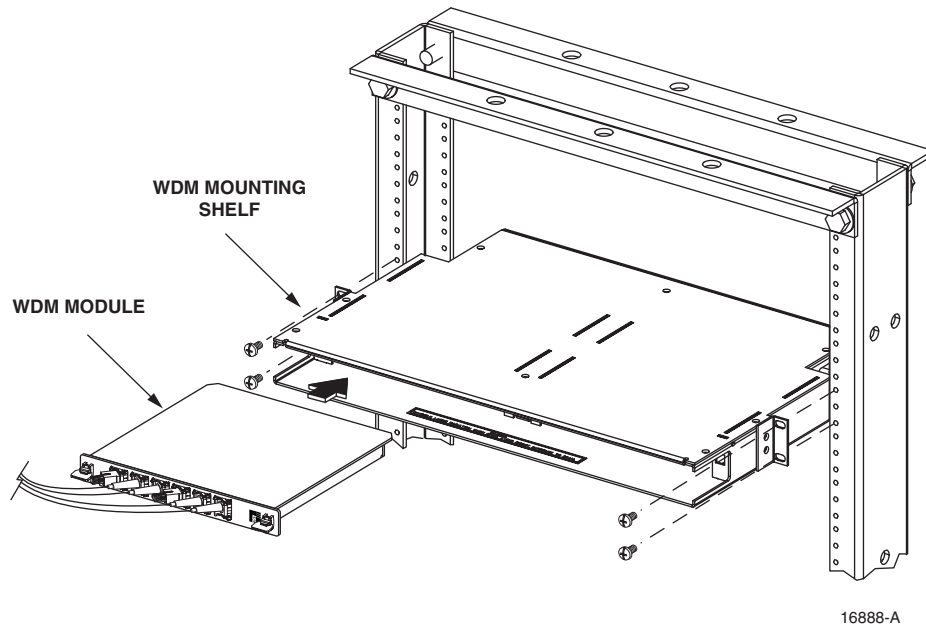

Figure 3-4. WDM Host Module Mounting Shelf and WDM Host Module Installation
5. Position the mounting shelf in the designated mounting space in the rack (per system design plan) and then secure the mounting brackets to the rack using the four #12-24 machine screws provided as shown in Figure 3-4.
6. Install each host module in the mounting shelf (see Figure 3-4). A rail on the side of the module fits into a guide within the mounting.